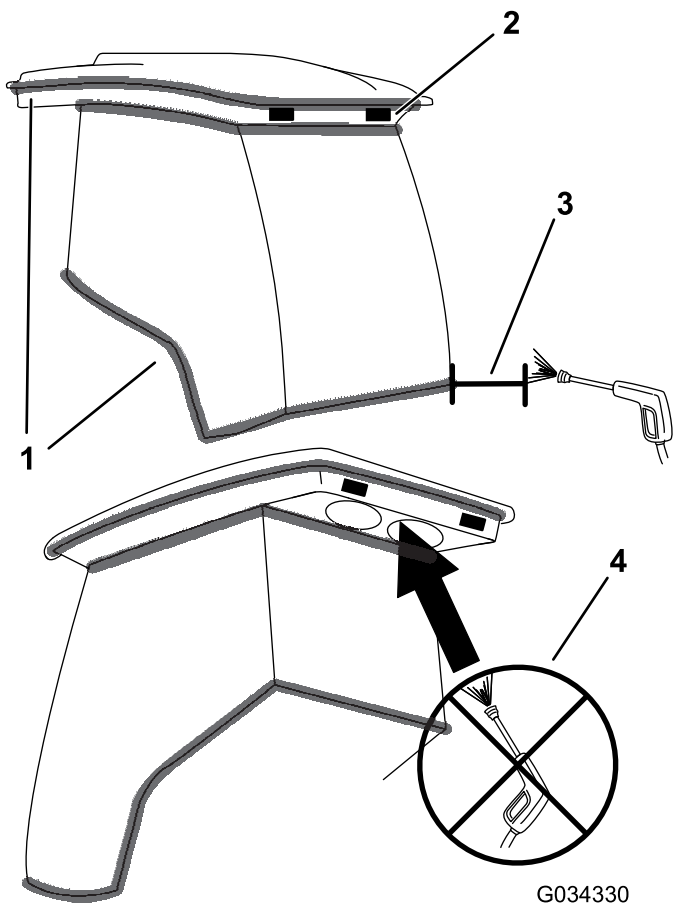

**Figure 113**
1. Open the caps at the top of the wiper arms (Figure 113).